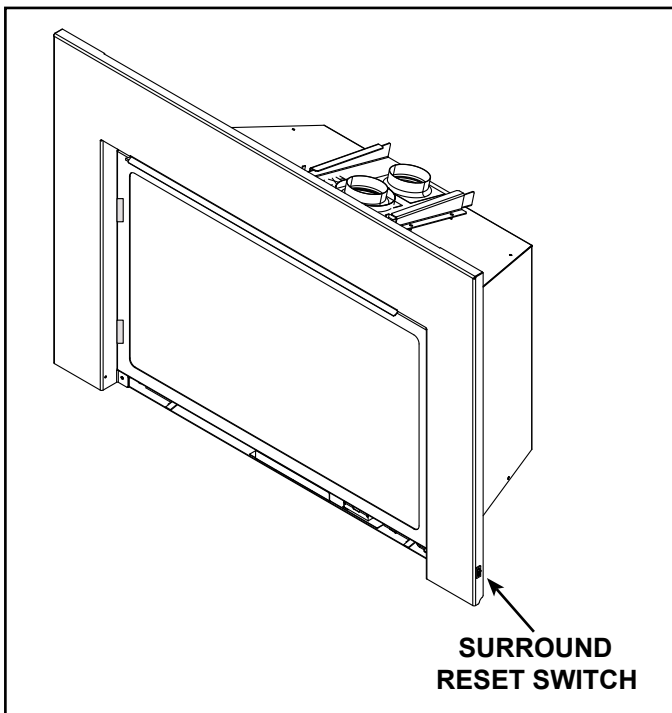

Figure 3.11 Surround Reset Switch
- See Figure 3.11 for reset switch location.
- Wait five (5) minutes to allow possible accumulated gas to clear.